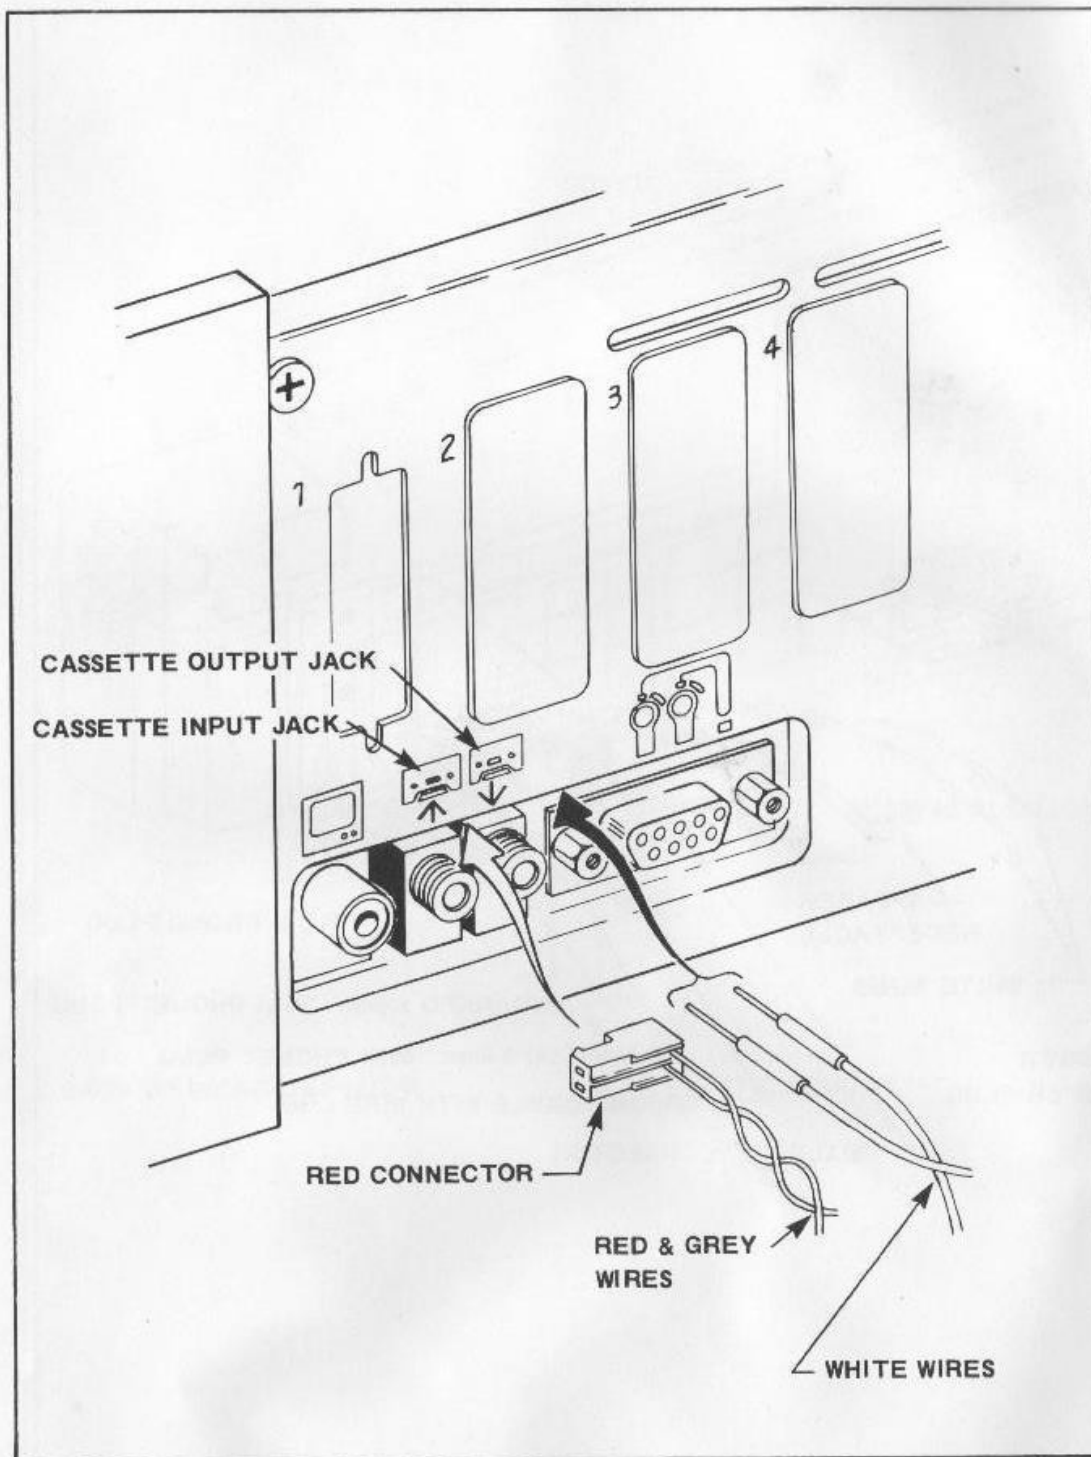

FIGURE 4
- (1) Take the 4 wire twisted cable (two white wires and one red and grey set combined) and insert it through the rear panel of the computer in the opening above the cassette output/input jacks. Hold the red connector flat with the snout facing left as shown, and gently insert it through the opening. Take care not to force it. By carefully inserting it as described it will fit easily through the opening indicated (Figure 4).